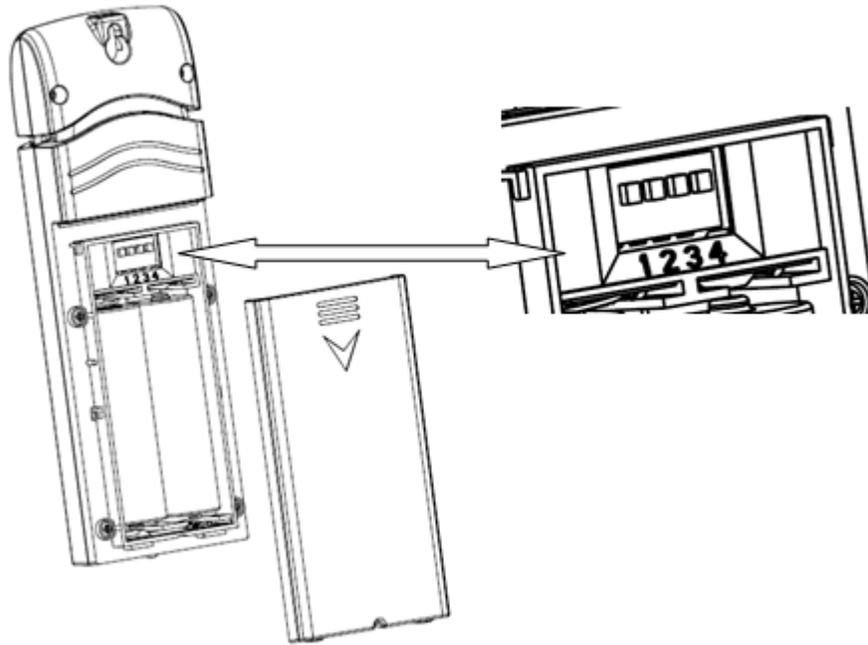

Figure 25
1. Remove the battery door on the back of the transmitter(s) by sliding down the battery door, as shown in Figure 25 .